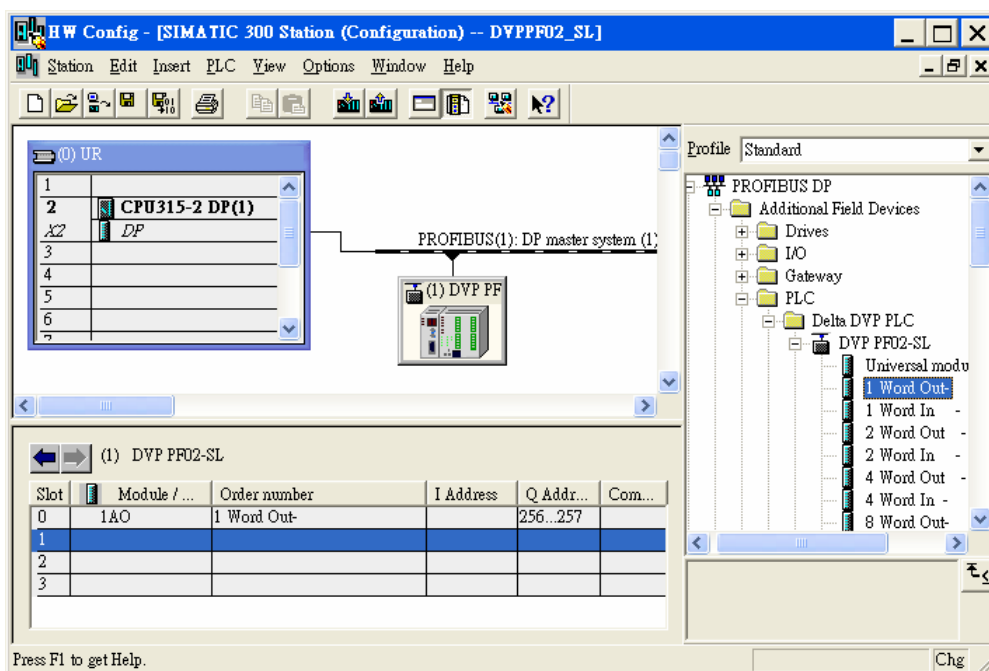

Figure 10-24
5. Configure “1 Word Out” to Slot 0, as Figure 10-24.